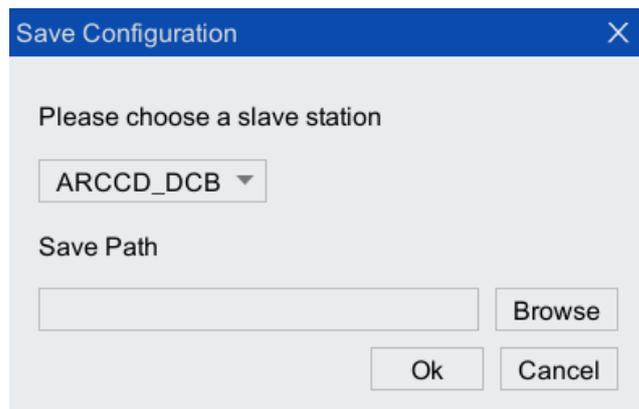

Figure 8-54 Export Configuration File
Step1. On the main interface of the teach pendant, click "System > System and Update > Export Configuration" option, and the "Save Configuration" interface as shown in Figure 8-54 pops up.